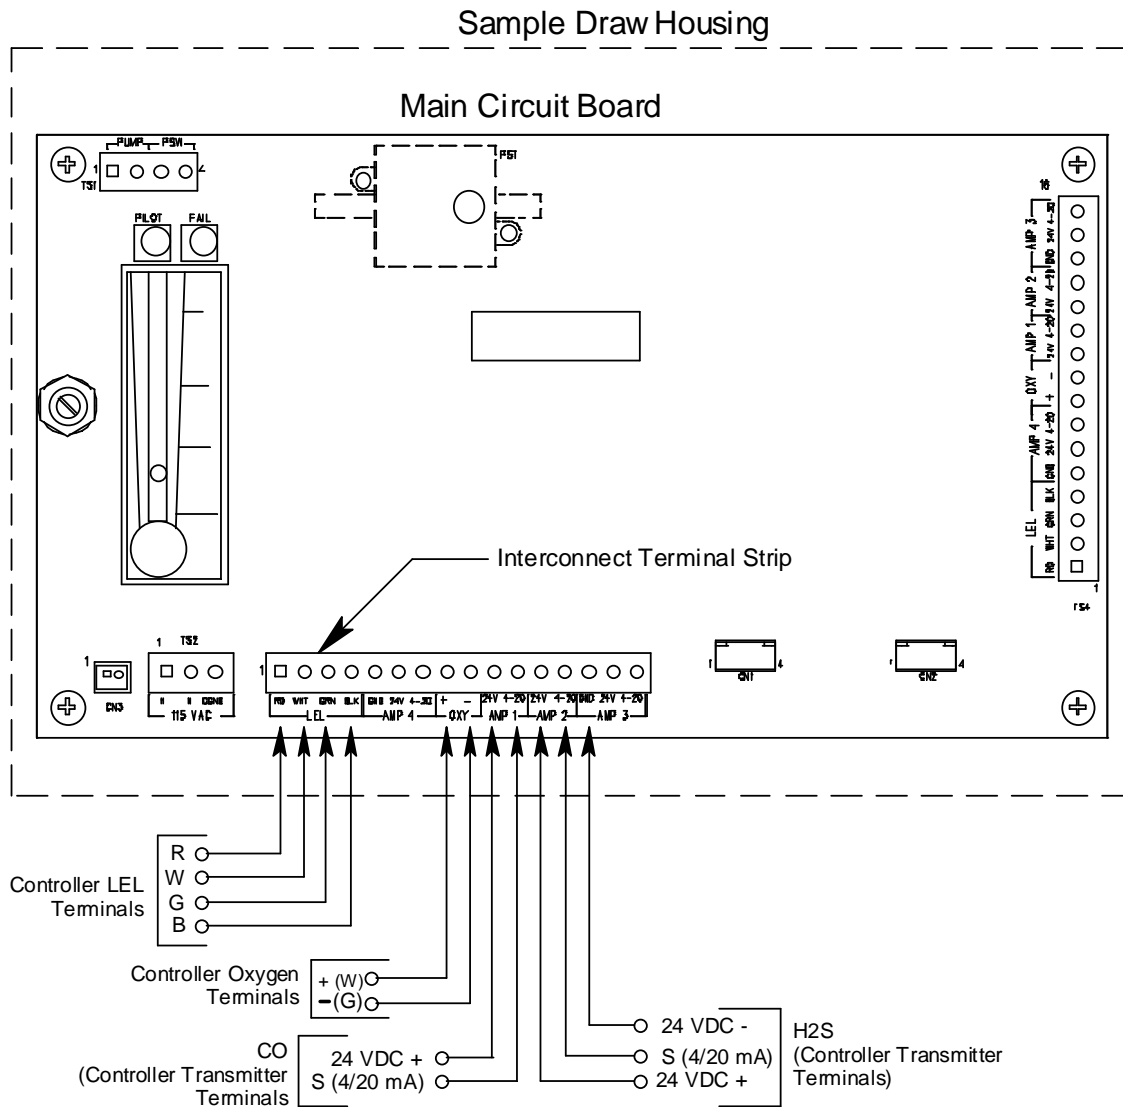

Figure 5: External (field) Wiring, Sample-Draw Detector
3. Connect the cable to the sample-draw detector's interconnect terminal strip as shown in Figure 5.
6. Connect the cable or wires at the controller to the appropriate channels' detector/transmitter terminal strip as shown in Figure 5. Refer to the controller's operator's manual for the controllers detector/transmitter's terminal designations. The LEL and oxygen detector channels are direct connect and the CO and H2S channels are 4 - 20 mA transmitters.